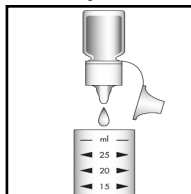

Figure 2
2. Add 5 drops of A-5501 Activator Solution and 2 drops of A-5500 Activator Solution (fig 2). Stir to mix the contents of the cup. Wait **6 minutes**.